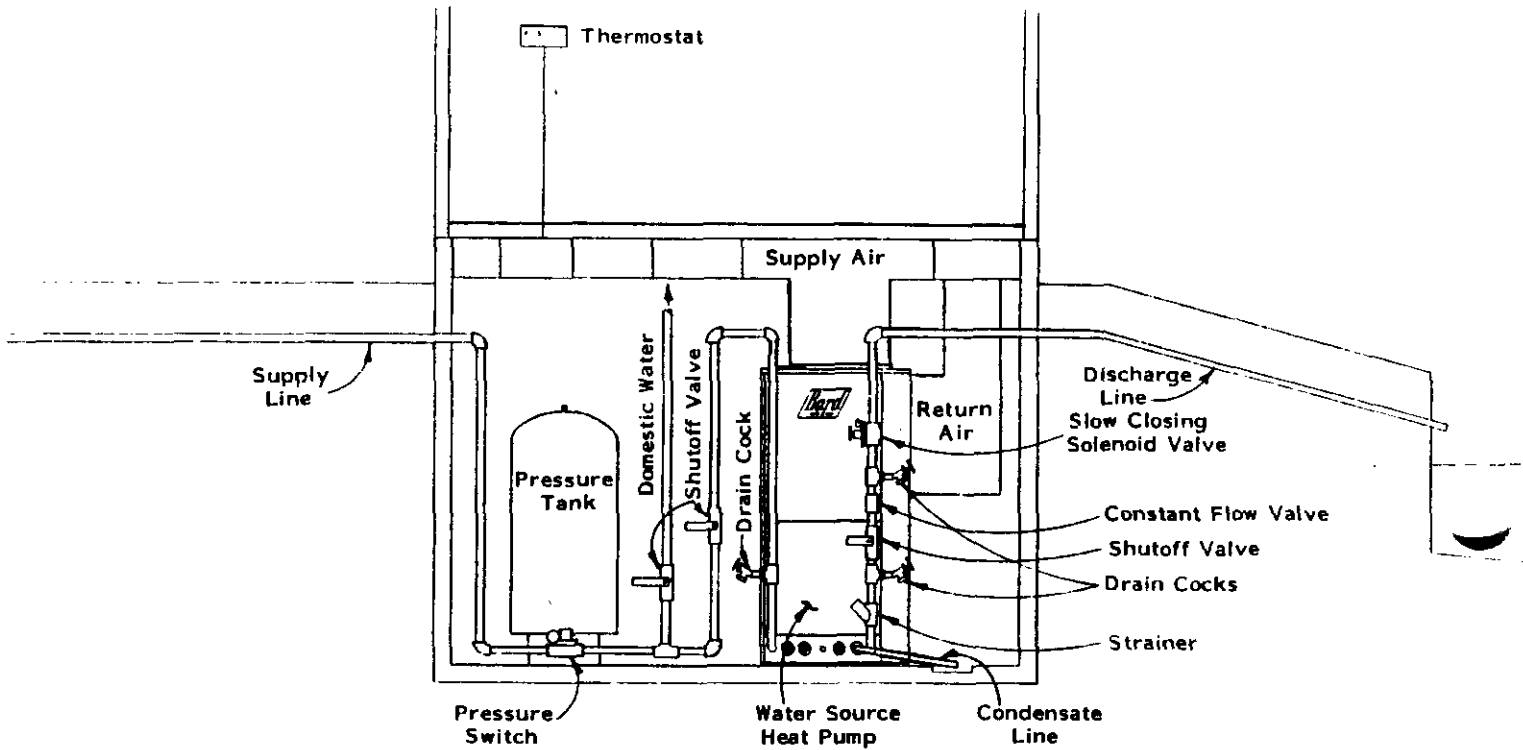

Figure 8. TYPICAL PIPING TO A WATER SOURCE HEAT PUMP
**PIPING ACCESSORIES**--Typical piping accessories included in the pipe lines from the pressure tank to the heat pump and from the heat pump to the discharge line are detailed in Figures 8, 9 and 10.